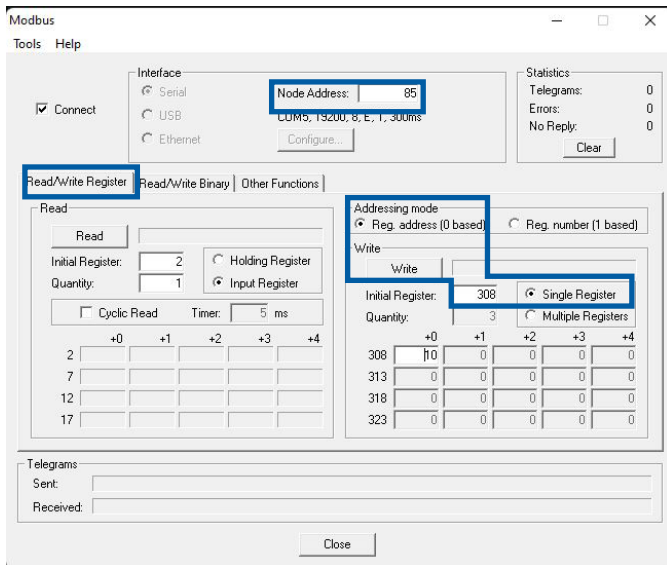

Figure 19 - Write address
- Step 2: Input the new address (for example 10) in register W(06) 0x0134, and click write (Figure 19).